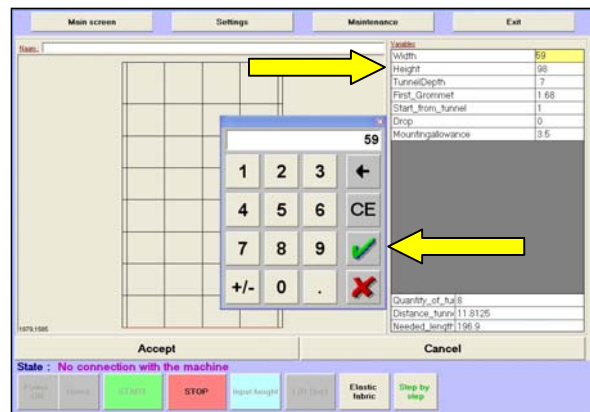

Figure 27 Modifying the specification lines
- ▶ Enter the proper value by using the virtual keyboard (Figure 27).